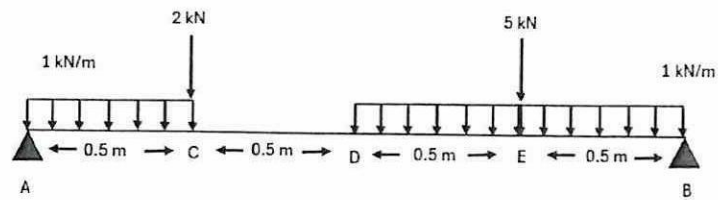

Figure Q2.2
- (b) Beam AB is 2 meters long and carries a uniformly distributed load, as shown in **Figure Q2.2**.